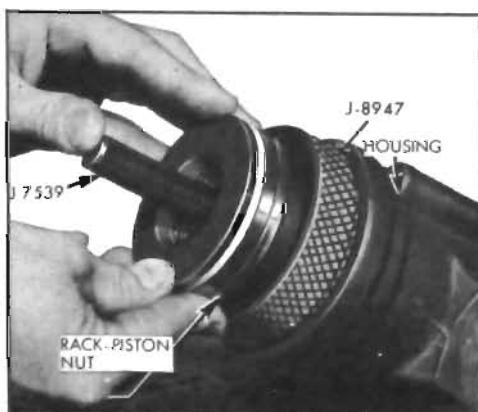

Figure 8-58—Installing Rack-Piston Nut
6. Install ring compressor sleeve Tool J-8947 in gear housing and hold it tightly against shoulder in the housing. See Figure 8-58. Insert the rack-piston nut into the housing until the ball retaining Tool J-7539 engages the worm. Turn the stub shaft drawing the rack-piston nut into the housing. When the piston ring is into the housing bore, the ball retaining tool and ring compressor may be removed.